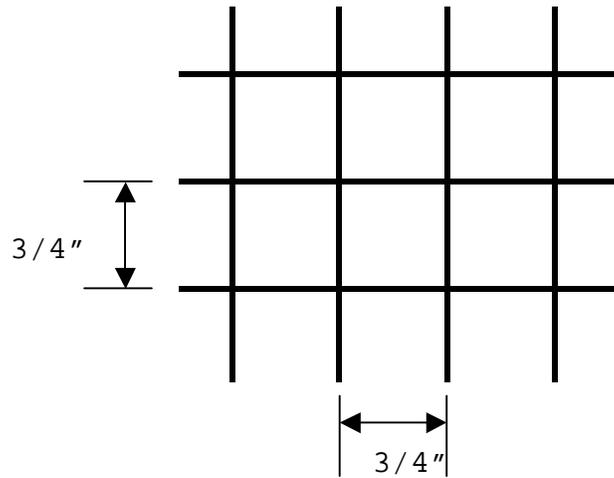
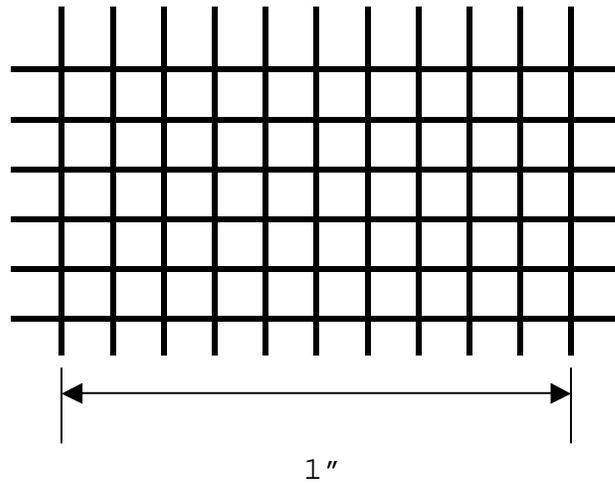

FIGURE 7
FIGURE 8
a. What size is represented by figure 7?
- a. What size sieve is represented by figure 8?
- b. Which sieve is larger, the one in figure 7 or figure 8?